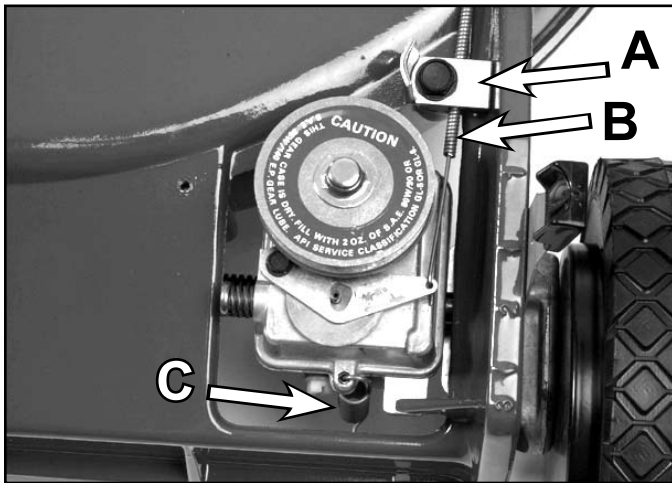

Fig 004
1. Remove the belt cover and unhook the spring on the front of the transmission. Slip the belt off the transmission pulley (Fig. 004).